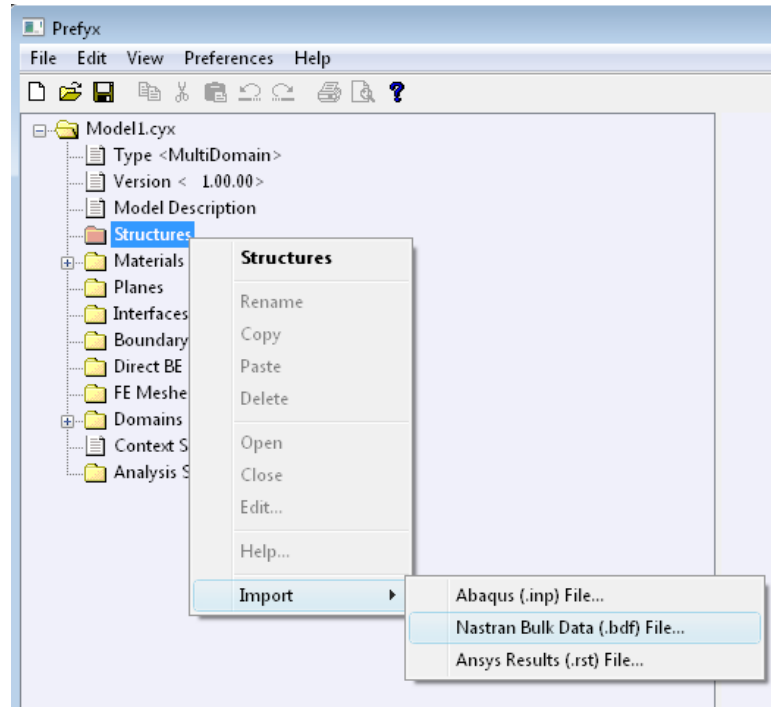

Figure 5.1: Importing a finite element structure mesh.
- To import FE mesh: Right-click on **Structures** and select **Import** → **Nastran Bulk Data (.bdf) File** (see Figure 5.1) to import mesh from Nastran bulk data format. The FE meshes from other data formats can be imported by selecting **Abaqus (.inp) File**, **Ansys Results (.rst) File**, or **I-DEAS Universal (.unv) File**.
Right-click on **Model** → **Structures** and select any of the file format options from **Import** (refer to Figure 5.1). *Coustyx* has the capability to import FE meshes from the following data formats.